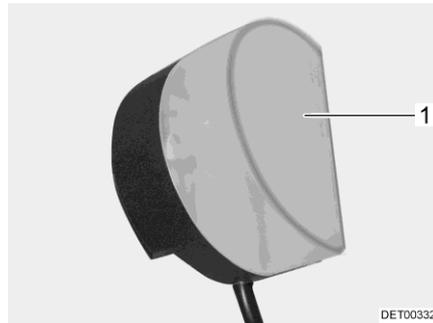

Fig. 194 Wardrobe light
- Press the light covering (Fig. 194,1) lightly together and remove it.